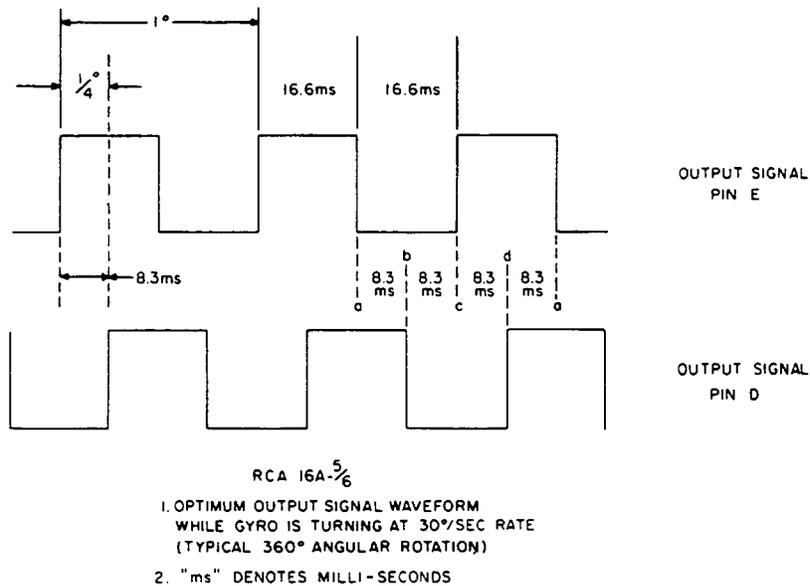

FIGURE 5-6
Rotate instrument CW at exactly 30 deg/sec for a minimum of 360 deg. Signal outputs as observed on dual trace scope shall conform to Figure 5-6. Repeat in CCW direction.
Signal D should now lead Signal E, all other requirements conforming to figure 5-6.
- 4) If these voltages are attainable, place instrument on rate table. Energize with normal voltages, turn at 30 deg/sec CW and observe signal outputs on scope. If "on" and "off" times of each signal are not equal to 0.5 deg. (16.6 millisecc) trim in with R4 for signal of Pin D and R12 for signal of Pin E. (See Figure 5-6)
- 5) If necessary to adjust phasing (see Figure 5-6) loosen slightly the two clamping screws holding the moveable switch block.
- 7) When adjustment has been adequately performed, carefully tighten two clamping screws without disturbing phase relationship. Signals should be monitored during tightening. Replace cover over instrument and allow motor warm-up. Recheck each signal and phasing, CW and CCW, at 30' per sec for a minimum of 360 deg. table rotation. (See Figure 5-6) All switching transitions must be a minimum of 6.0 milliseconds from both the preceding and succeeding transition on the alternate channel.